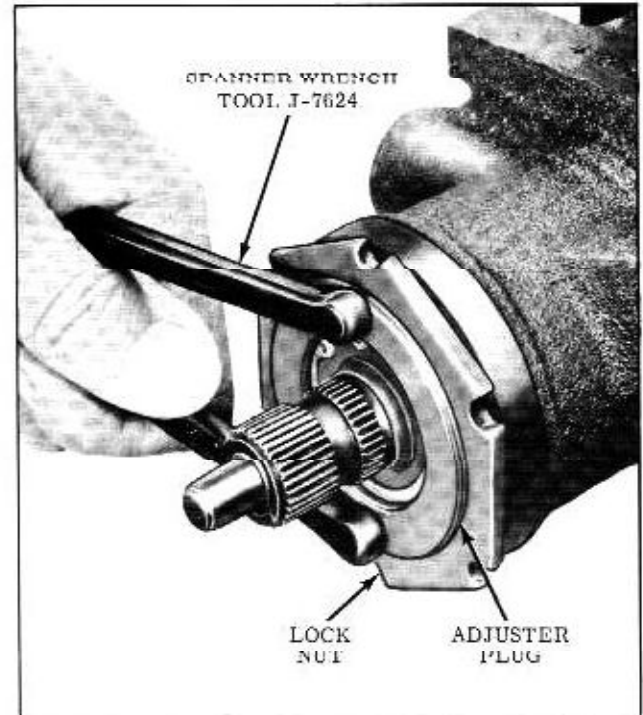

Fig. 4-101 Overcenter Adjustment
- b. Install the adjuster plug lock nut and tighten with Spanner Wrench J-972-A. While holding adjuster plug in position with Tool J-7624. (Fig. 4-101)